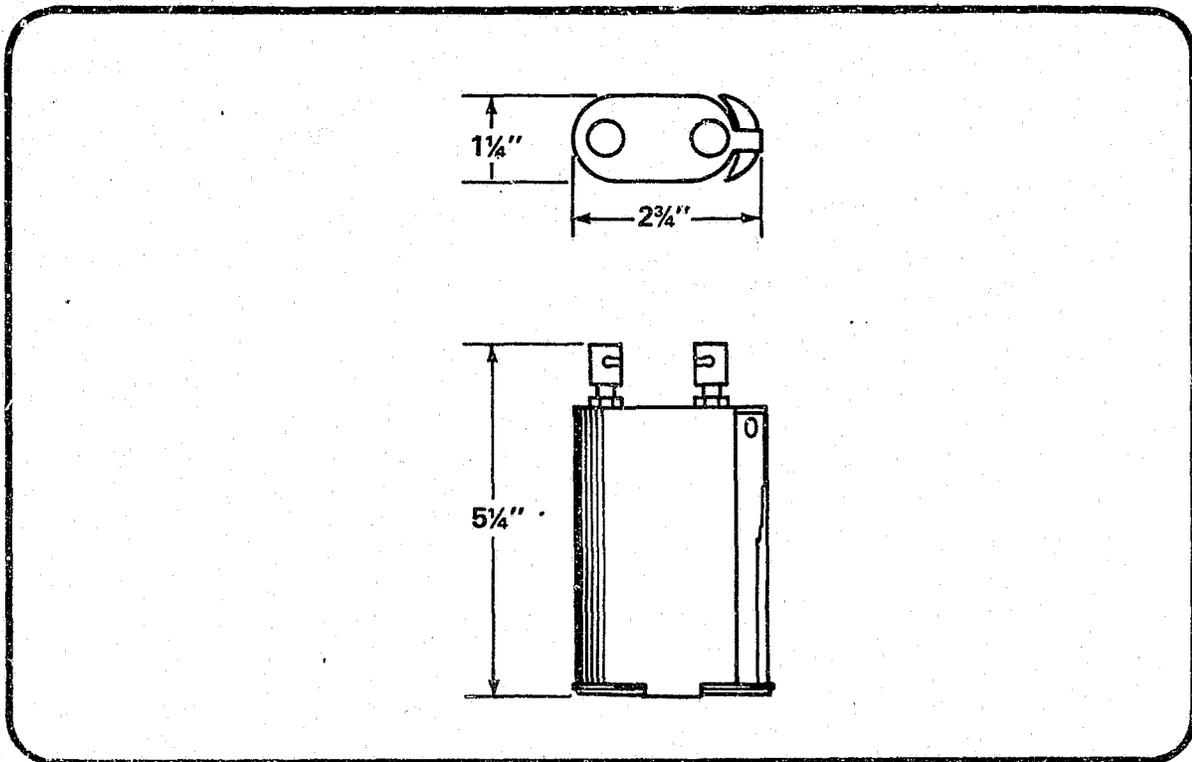

Figure 64
**Model 7107-4.** With a 300-volt output, this model can fire a single electric blasting cap through 10,000 feet of Number 18, two-conductor, copper wire or fifty electric blasting caps in straight series through 3,600 feet of wire. Both models are illustrated in figure 64.